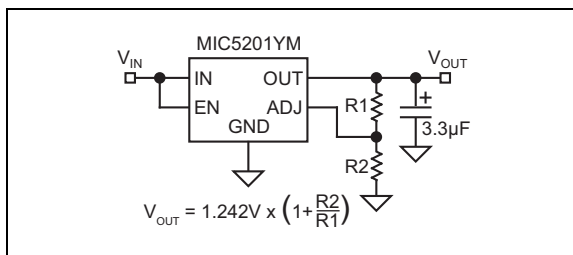

FIGURE 4-2: Adjustable Application.
Adjustable regulators require two resistors to set the output voltage. See Figure 4-2.
- Corrected equation in Figure 4-2.